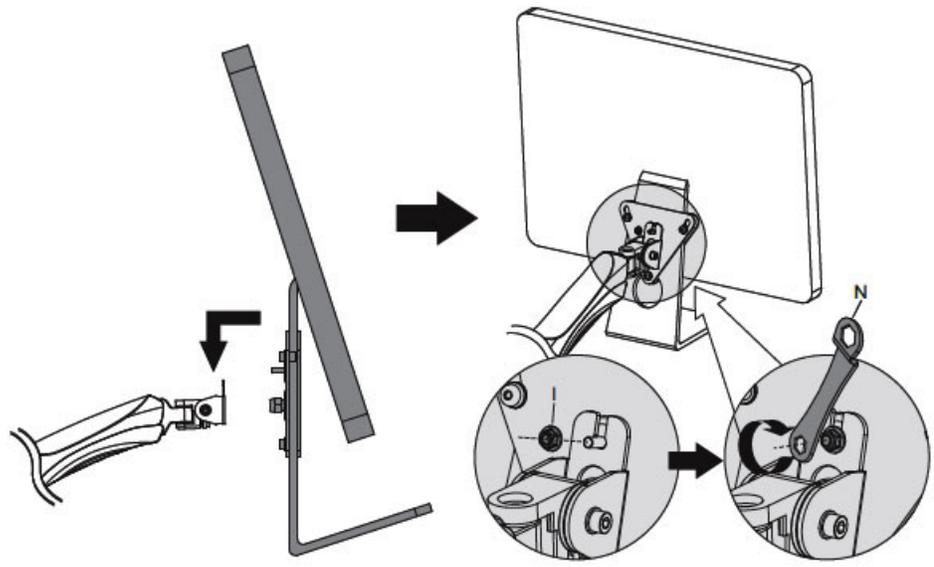

Figure 11
4. Mount the iMac to the Extension Arm, using Nut (I) and tighten it using Wrench (N), see Figure 11.